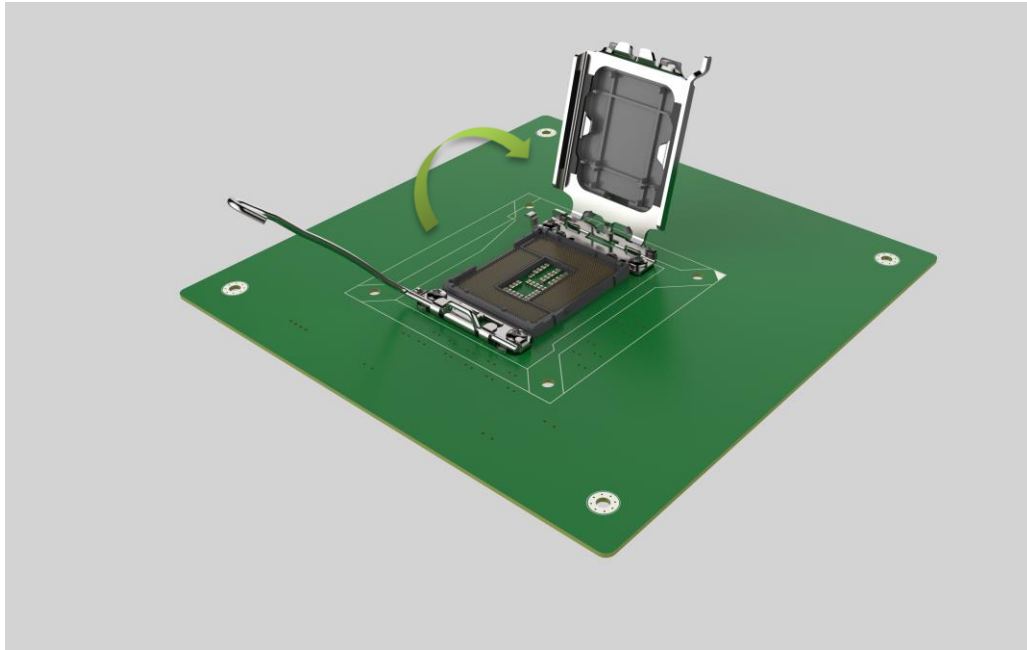

Figure 3-4: Remove Protective Cover
Step 2: Open the socket and remove the protective cover. The black protective cover can be removed by pulling up on the tab labeled "Remove". See **Figure 3-4**.